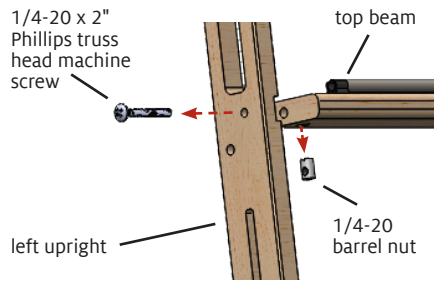

FIGURE 7: REMOVE TOP BEAM HARDWARE
7. Remove hardware from the top beam: Unscrew the 1/4-20 x 2" Phillips truss head machine screw holding the top beam to the left upright; a 1/4-20 barrel nut will fall out (Figure 7). You will not need the screw for the beam kit, but will use the barrel nut in the next step.